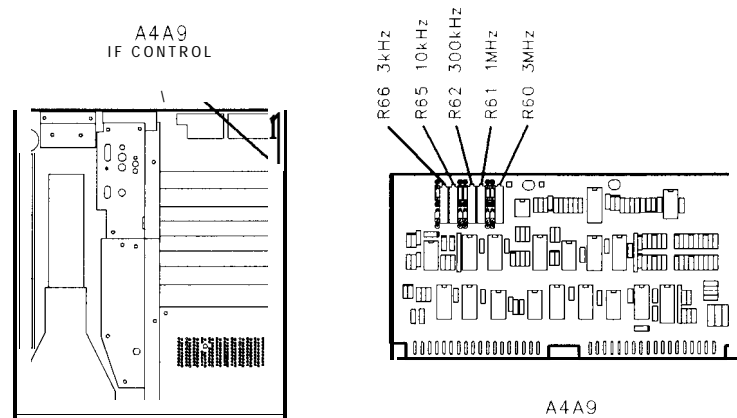

Figure 4-8. Location of Bandwidth Adjustments
8. Adjust A4A9R60 3 MHz for MKR In] indication of 1.5 MHz while maintaining the marker at 0.430 X using the DATA knob. Refer to Figure 4-8 for the adjustment location.
14. Adjust A4A9R61 1 MHz for MKR A indication of 500 kHz while maintaining the marker at 0.430 X using the DATA knob. Refer to Figure 4-8 for the adjustment location.
20. Adjust A4A9R62 300 kHz for MKR A indication of 150 kHz while maintaining marker at 0.430 X using the data knob. Refer to Figure 4-8 for location of adjustment.
26. Adjust A4A9R65 10 kHz for MKR A indication of 5.00 kHz while maintaining the marker at 0.430 X using the DATA knob. Refer to Figure 4-8 for the adjustment location.
32. Adjust A4A9R66 3 kHz for MKR A indication of 1.5 kHz while maintaining the marker at 0.430 X using the DATA knob. Refer to Figure 4-8 for the adjustment location.